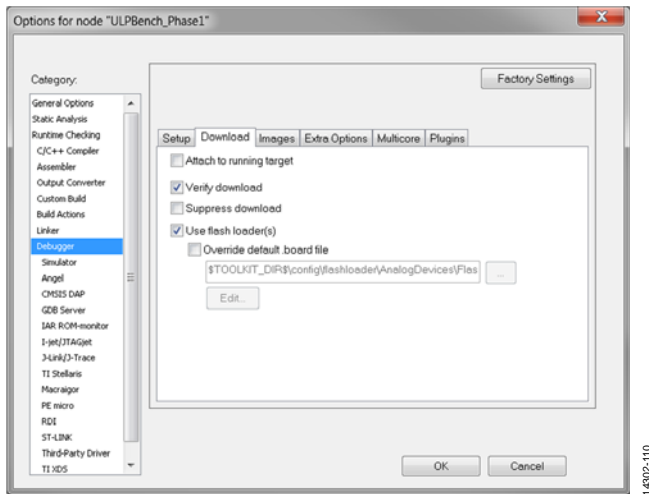

Figure 10. Debugger Menu—Download Tab
- Ensure that the **Verify download** and **Use flash loader(s)** checkboxes are selected in the **Debugger** menu in the **Download** tab, as shown in Figure 10.